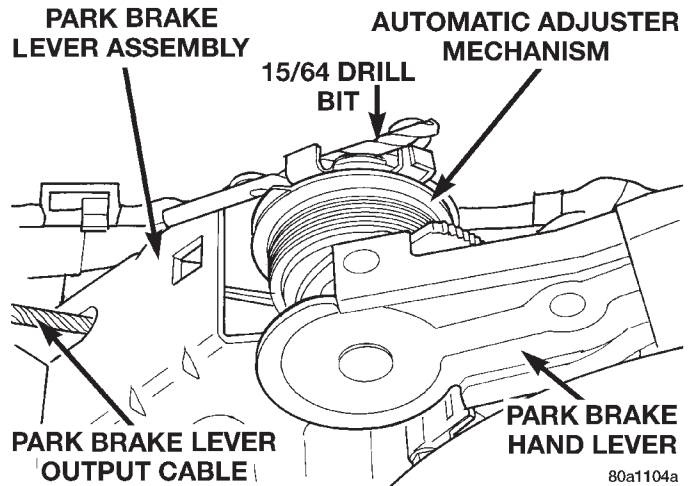

Fig. 135 Park Brake Lever Correctly Reloaded
(9) Reload the adjuster mechanism on the park brake lever using the following procedure.
- Ensure the park brake lever is in the **full down position** when attempting to pull on park brake lever output cable (Fig. 135).
- Grasp the park brake lever output cable (Fig. 135) by hand and pull upward.
- Continue to pull upward on cable until a 15/64 drill bit can be inserted in the adjuster mechanism as shown in (Fig. 135). This will lock-out the auto adjuster mechanism removing the tension from the park brake lever output cable. This will then allow the rear park brake cables to be easily removed from the equalizer.
(14) Unload the adjuster mechanism on the park brake lever using the following procedure. Grasp the park brake lever output cable by hand and pull upward until all tension is removed from the drill bit (Fig. 135). used to reload the adjuster mechanism. Remove the drill bit from the clock spring of the park brake lever adjuster mechanism. Then, slowly release the park brake lever output cable until all slack is removed from the cable.
(15) Clip the wiring harness to the park brake lever bracket.
(16) Install the wiring harness connector on the ground switch of the park brake lever.
(17) Cycle the park brake lever once from the released position to the fully applied position and then back to the released position. This will position the park brake cables and fully adjust them to thier proper tension.